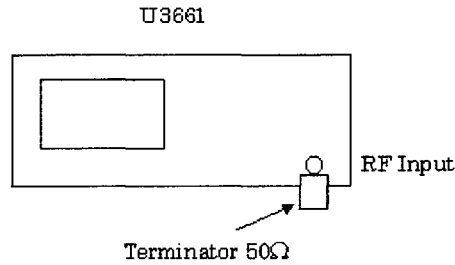

Figure 3-3 Setup of Displayed Average Noise Level Test
1. Connect Terminator to INPUT of U3661 as shown Figure 3-3.